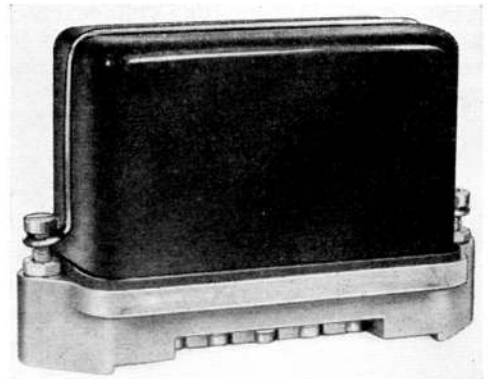

Fig. 1. Magnetic switch, Type 10B, No. 2
2. The switch (*fig. 1*) has its operating mechanism mounted on a melamine base, underneath which are the terminals; the cover is sealed by a synthetic rubber washer, and held in position by a clip secured by two screws.